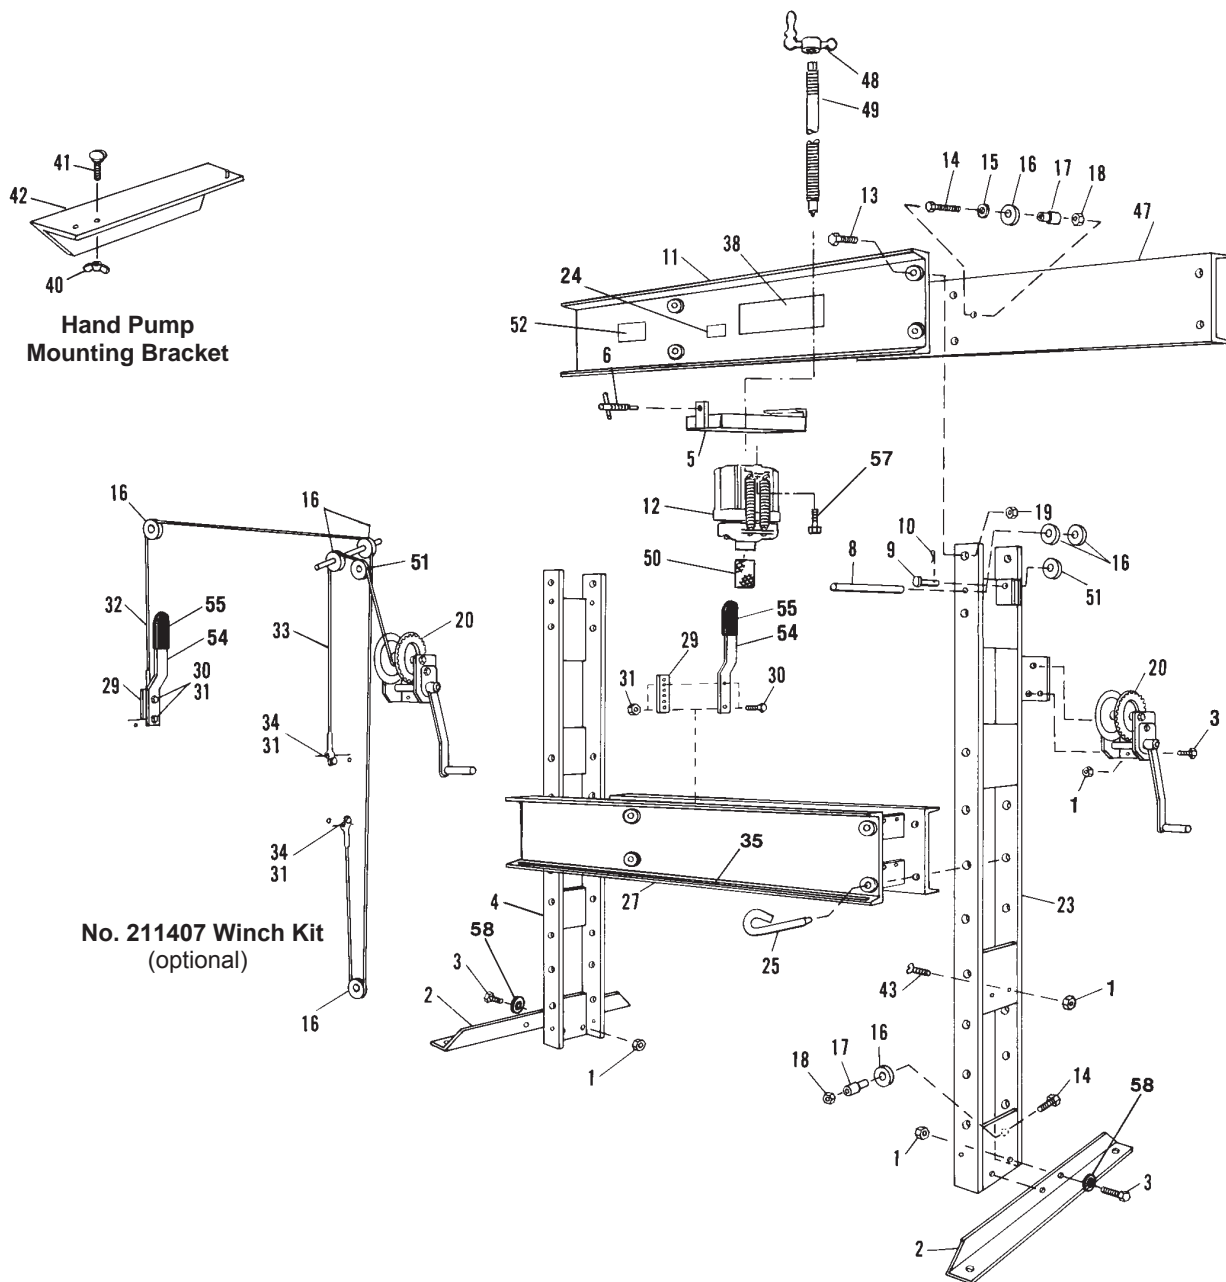

Figure 1
1. Attach the foot angles (Figure 1, item 2) to the press uprights (Figure 1, items 23 and 4) using four ½-in. cap screws (item 3), washers (item 58), and hex nuts (item 1).